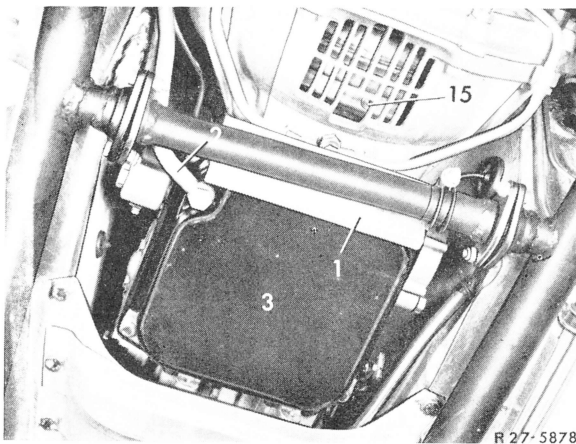

Fig. 1
Unscrew oil filler pipe (2) and let oil run out (Fig. 1).
Rotate crankshaft until the oil drain plug (15) shows up and can be screwed out (Fig. 1).